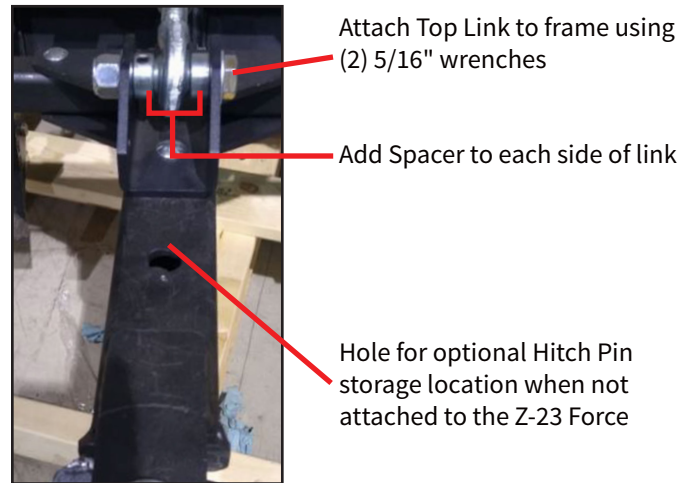

Figure 1:
The Top Link will be shipped with the threads fully engaged within the main body of the Top Link and 1 end not bolted to the frame (for shipping purposes). Rotate Axle Frame Assembly so that Tongue and Gage Wheels (Tire) are facing forward and attach end of Top Link to frame using (2) 15/16" wrenches (See Figure 1). Remove from Skid.